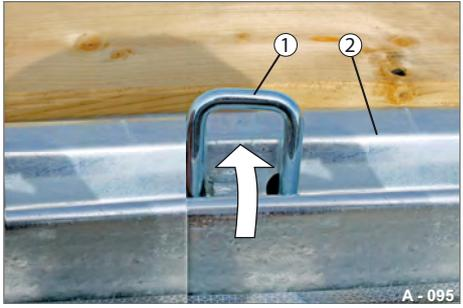

Fig. 147 Lashing shackle pressed out
- ▶ Press out the lashing shackle (Fig. 147/1) from below upwards.